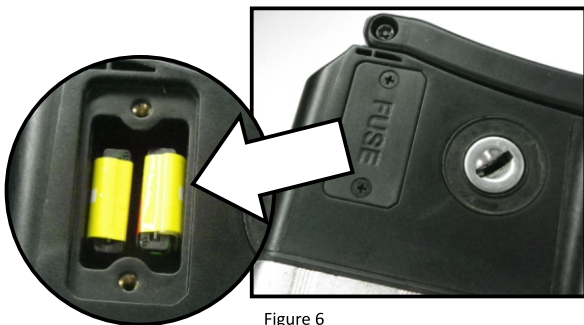

Figure 6
*\*We recommend the use of a Voltmeter to measure battery power output (V).*
*\*\* To access the fuses, remove the cap with a philips screwdriver (figure 6).*